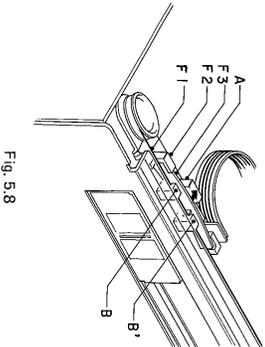

Fig. 5.8
- (5) Referring to Figs. 5.8 and 5.9, hold the protrusion A of F2 (Light Intercepting Box) and F3 (Stopper Spring) with pliers. Set F1 (dial thread) into the groove on the protrusions B and B' of Light Intercepting Box and return the Stopper Spring to its initial position (remove the pliers).